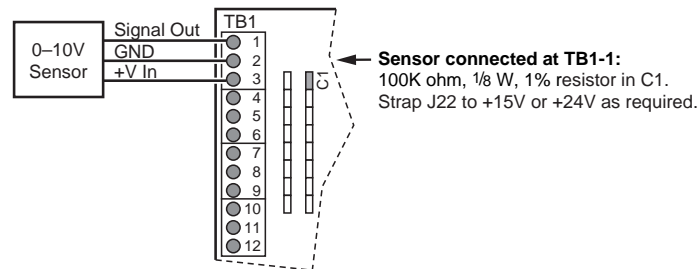

Figure 7. 0–10 Volt Sensor Connections
3. Connect the +V lead of the sensor to the +V terminal on the 7716 (see Figure 7).